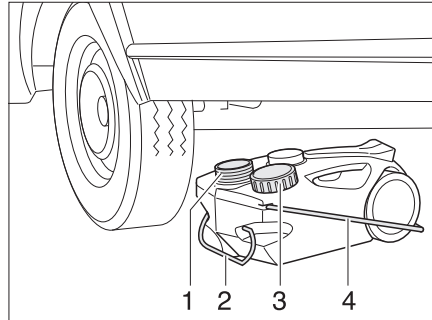

Fig. 139 Waste water tank, mobile
- Close the opening of the waste water tank (Fig. 139,1) with the lid (Fig. 139,3).
- Pull out the waste water tank at the handle (Fig. 139,2).
- Swing up the carrying handle (Fig. 139,4) and set the waste water tank up.